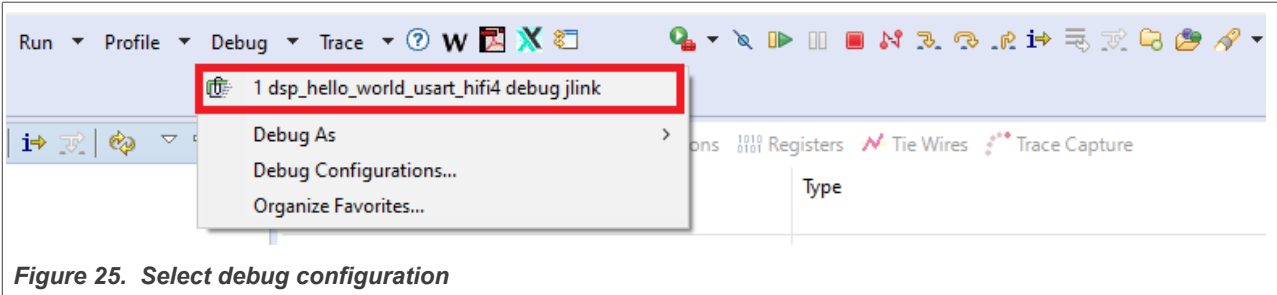

Figure 25. Select debug configuration
**Note:** After initial configuration, it is possible to select the same debug configuration as in Figure 25.